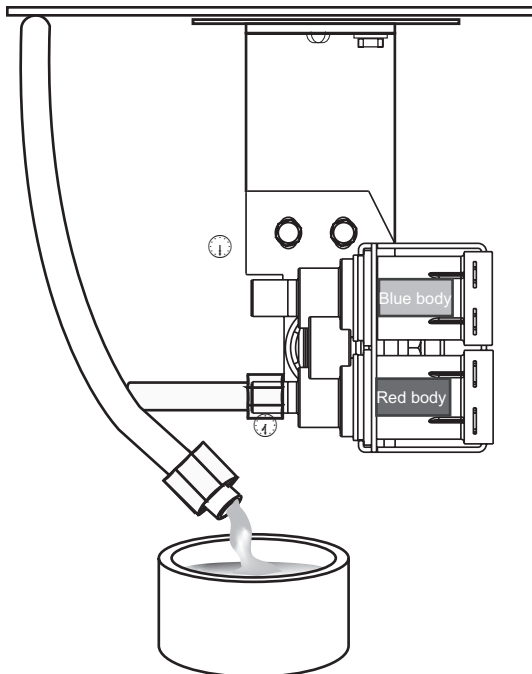

Figure 11-7. —Draining reservoir before removal.
4. Disconnect the water line at the valve and place the end in suitable container to catch the draining water. See Figure 11-7, ① and ②.